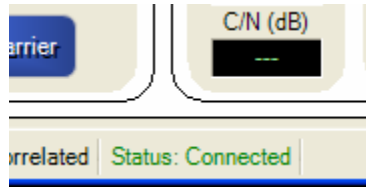

Figure 1-8: Status Connected Indicator
8. TestKit indicates the connected status by displaying *Status: Connected* in the status bar at the bottom of the window as shown in Figure 1-8.